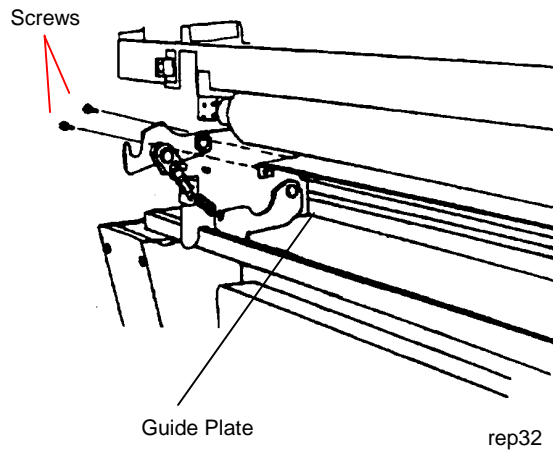

Figure 1. Removing the Guide Plate
3. (Figure 1): Remove screws and the Guide Plate.